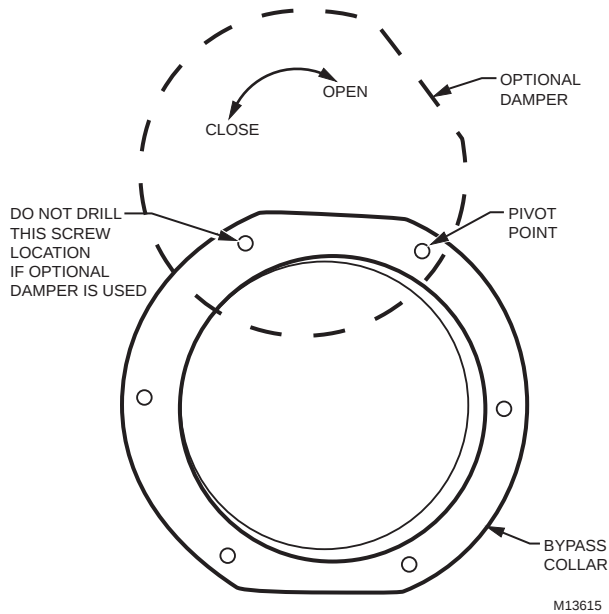

Fig. 10. Drill pattern.
4. Pre-drill the mounting holes using a 1/8 in. drill bit. If you are installing the optional Damper, do not drill the hole where the damper blade will swing. See Fig. 10.